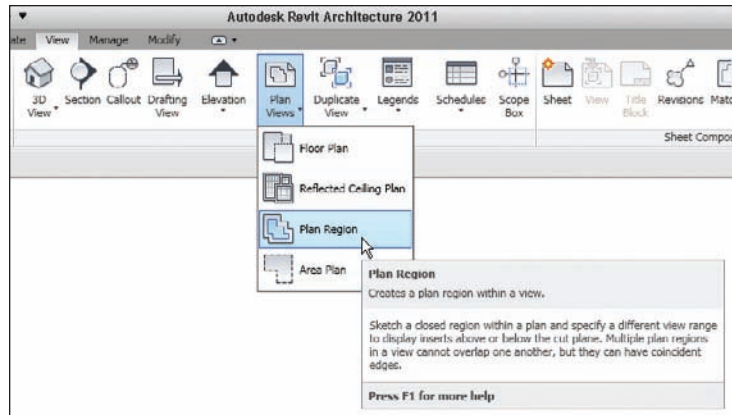

FIGURE 7.34 Using a plan region allows you to alter the view range in a specified area of a plan.
2. On the View tab, click the Plan Region button, as shown in Figure 7.34.